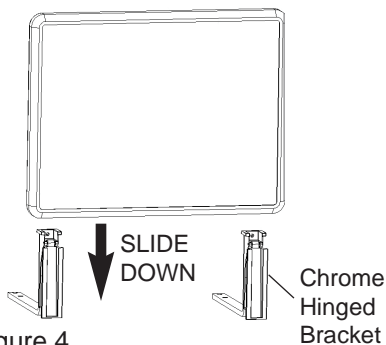

Figure 4
Step 7: Lining up both Mounting Plates on End Shelf with the End Shelf Brackets, slide the End Shelf **down** onto the chrome hinged brackets (see Figure 4).